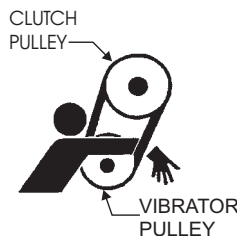

Figure 19. V-Belt Hazard
**NEVER** attempt to check the V-belt with the engine running. Severe injury can occur if your hand gets caught between the V-belt and the clutch (Figure 19). Always use safety gloves.